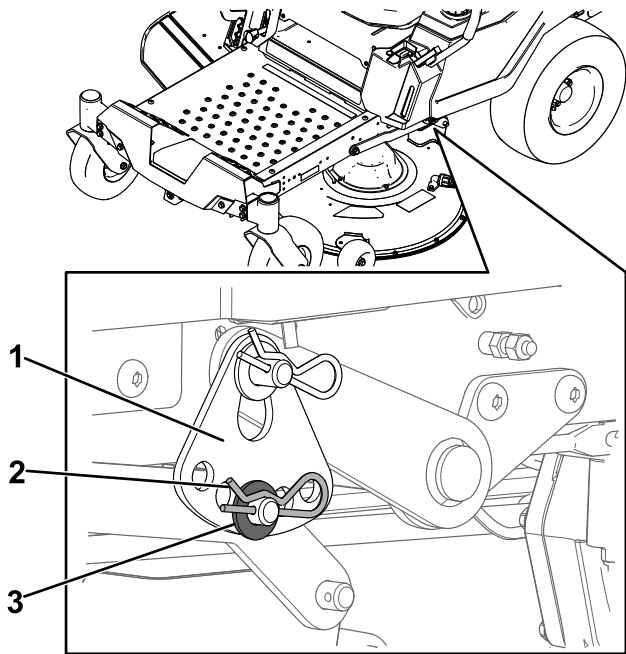

Figure 71
- 6. Remove the hairpin cotter and washer from the lower lift-arm pin (Figure 71).